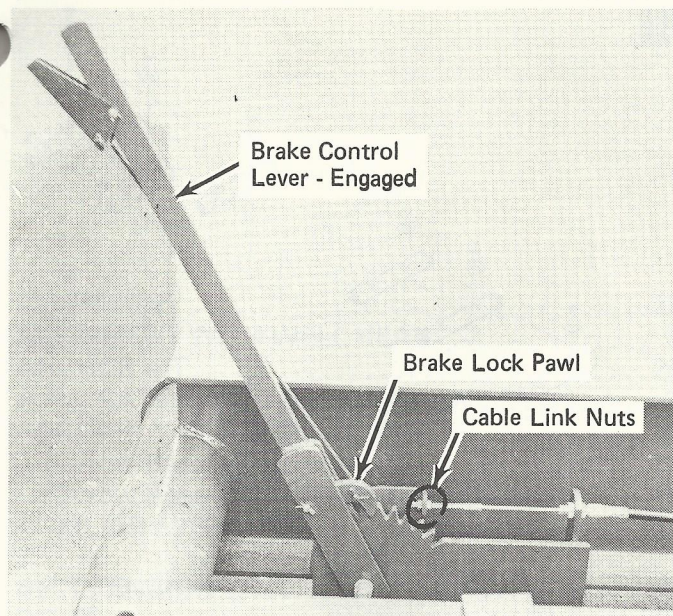

Figure 41
4. Engage brake control lever. See figure 41. Full engagement should occur with several teeth remaining on the ratchet to compensate for subsequent lining wear and cable stretch. When there is not sufficient teeth left on the ratchet to completely set the brake, adjust brake control linkage per following step 5.